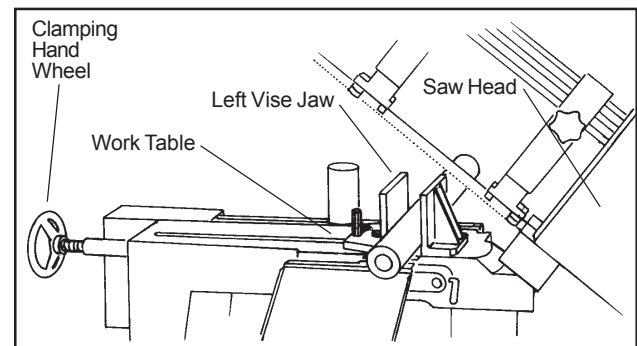
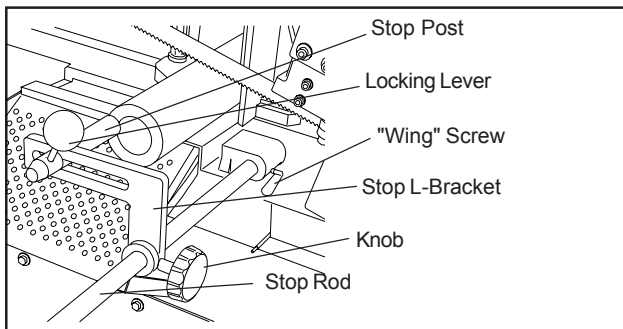

Figure 5: Securing workpiece
Figure 8: Work stop
1. Raise the saw head (refer to Figure 5).
Figure 5: Securing workpiece. The work stop is used to set up the saw for making multiple cuts of the same length (see figure 8). Install and adjust the work stop as follows: